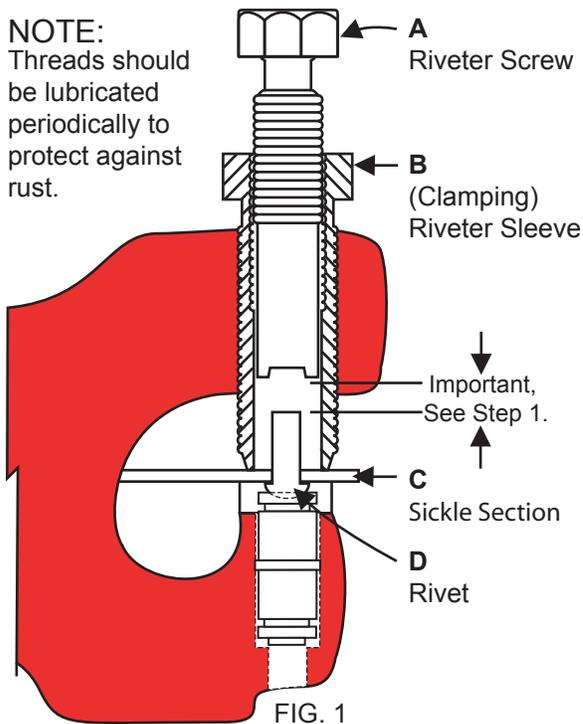
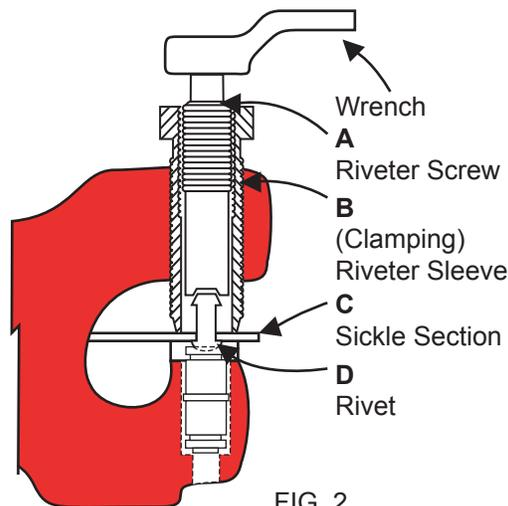

FIG. 1
FIG. 2
Step 1. After inserting anvil for desired rivet head, back off (clamping) Riveter Sleeve (B) and Riveter Screw (A) sufficient distance to permit positioning tool on sickle bar. **IMPORTANT:** Riveter Screw (A) must be retracted inside (clamping) Riveter Sleeve (B) sufficient distance to clear top of new Rivet.
Step 2. Position tool on sickle bar with bottom of new Rivet (D) centered in anvil. To stabilize tool for riveting, screw down (clamping) Riveter Sleeve (B) so it is completely flush against Sickle Section (C) as shown in Fig. 1. Finger tighten only. **Never use wrench on (clamping) Riveter Sleeve.**
Step 3. Screw down Riveter Screw (A) with fingers until contact is made with top of new Rivet (D). At this point, it will be necessary to attach a 3/4-inch wrench to head of Riveter Screw (A) to complete the riveting operation.
Step 4. With wrench, apply gradual pressure to new Rivet (D) forcing excess to form a new rivet head, as shown in Fig. 2.
Step 5. Once rivet head has been formed, back off (clamping) Riveter Sleeve (B) and Riveter Screw (A) to remove tool from sickle bar.